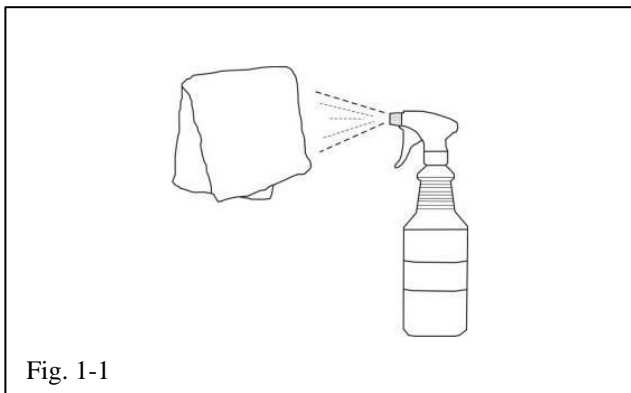

Fig. 1-1
- (b) Apply VDC cleaner or soap and water mix directly to cloth (Fig.1-1).